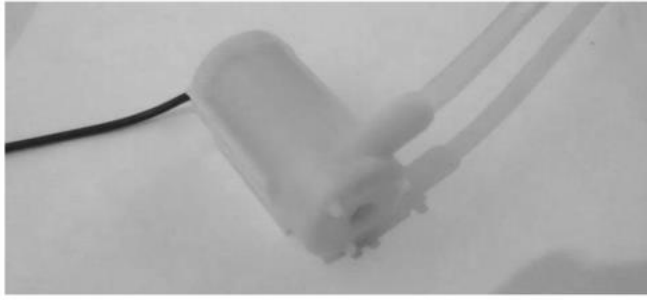

Figure 3. Submerged water pump.
The water motor (Figure 3) used for soil irrigation is made of injectable plastic and it is powered by direct current (DC). It is used to release water to the plants depending on the soil moisture levels. This motor is connected to relay which is an output pin of the microcontroller, which is an electrically driven switch. This relay is responsible for activating the water pump.